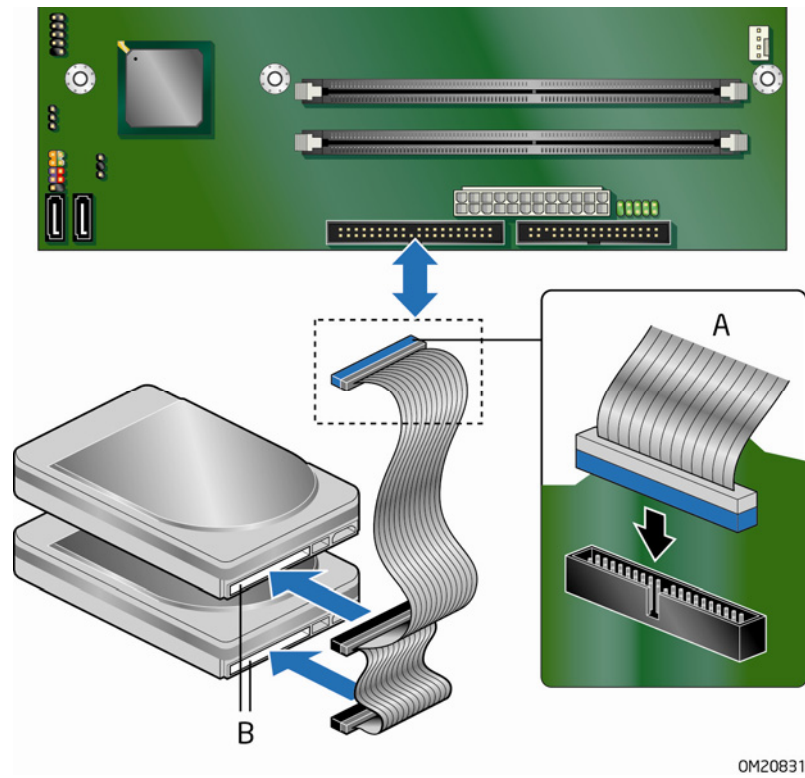

Figure 17. Connecting the IDE Cable
The IDE cable can be used to connect two IDE drives to the Desktop Board. The cable supports the ATA-66/100 transfer protocol. Figure 17 shows the correct installation of the cable.
2. Attach the cable end with the single connector (blue) to the Intel Desktop Board (Figure 17, A).
3. Attach the cable end with the two closely spaced connectors (gray and black) to the drives (Figure 17, B).